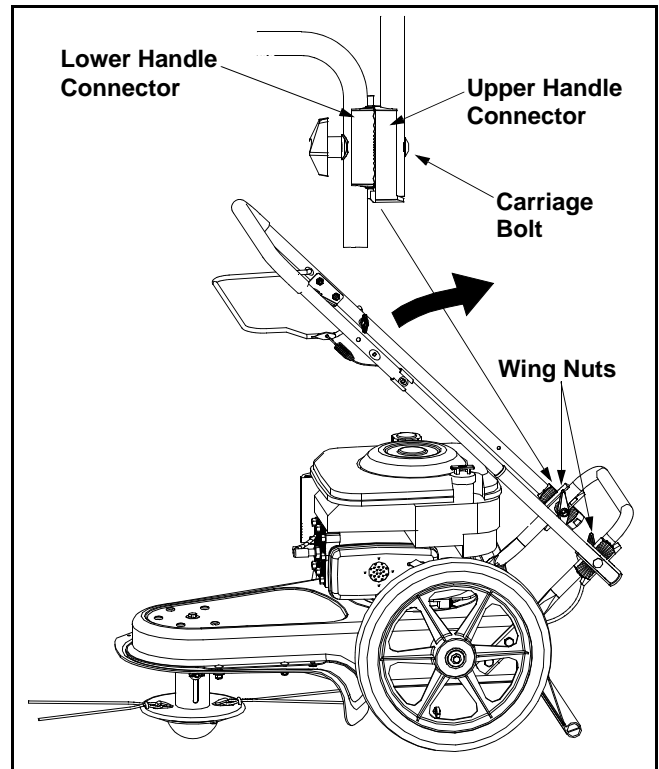

Figure 2
- Loosen each wing nut enough to separate the plastic connectors between the upper and lower handle. Gently lift up and pull back on the upper handle to raise the handle toward the operating position. See Figure 2.